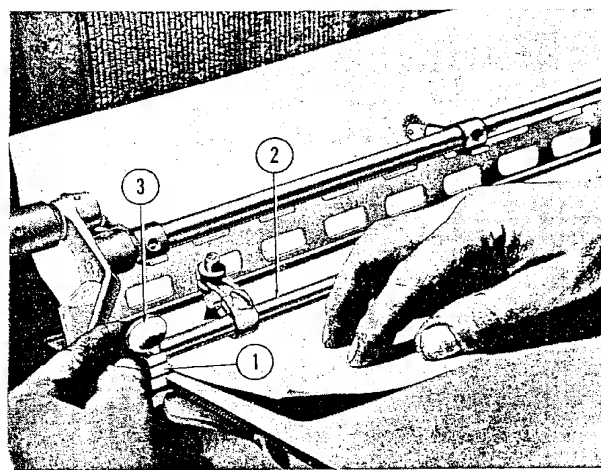
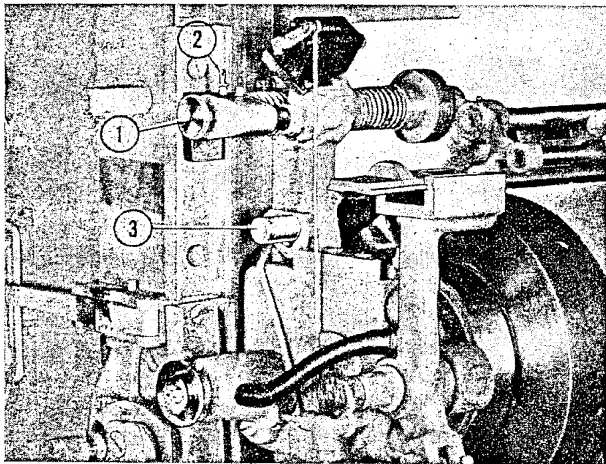
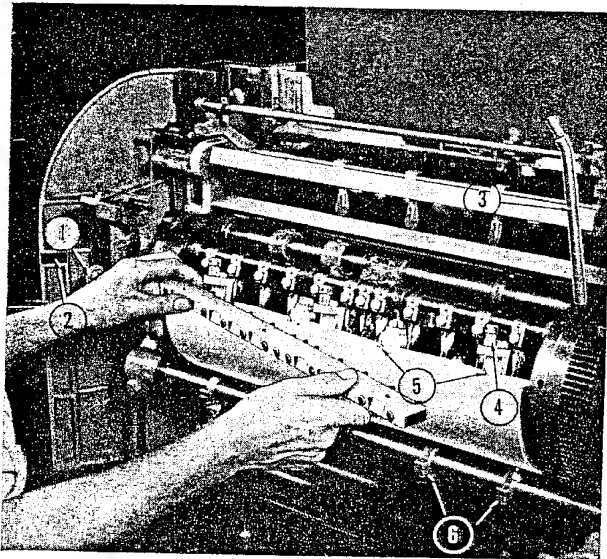
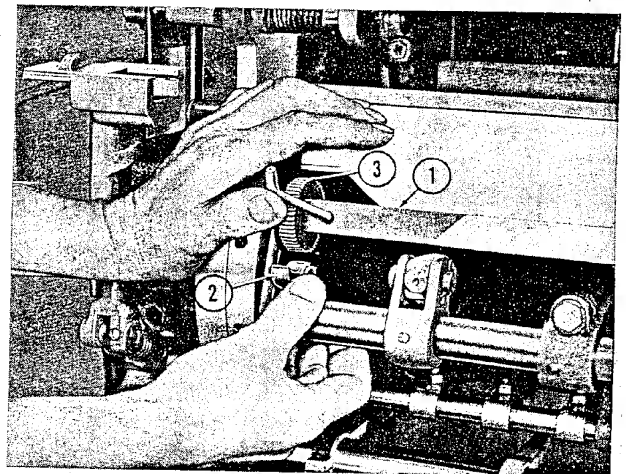

Figure 22—Setting Side Guide
Figure 23—Side Guide and Cylinder Brush Adjustment
Figure 25—Removing Cylinder Packing
Figure 26—Tightening Cylinder Packing
(2) HOW TO POSITION SIDE GUIDE SHIFTING CAM AND SET SIDE GUIDES.—The left and right side guides, (1) figure 22, which attach to the side guide tube, (2) figure 22, are adjustable along the tube. Either the left or the right side guide is used, depending upon the particular job to be run. The position of the side guide along the side guide rod is dependent upon the side register requirements as measured from the form for the particular job to be run. A scale along the front edge of the transfer
(e) With sheet in this position, set side guide, (1) figure 22, against the side of sheet and tighten side guide thumb screw (3). A side guide micrometer adjusting screw, (1) figure 23, is provided for
finer side guide register. When this adjustment is used, be sure that the setting is locked by tightening thumb screw, (2) figure 23. Slide and secure opposite side guide (not to be used) to opposite end of side guide rod.
(a) Run the press until the cylinder is approximately 1" below top center and the cylinder is on the down stroke. At this point the cylinder ratchet pawl lock collar spring pin (1) should be in line with the red alignment mark (2) on the cylinder end guard. (See figure 25).
(b) Open left cylinder end guard by lifting guard slightly and swinging it out. Pull out spring pin, (1) figure 25, thereby disengaging cylinder and permitting it to be revolved manually. *Do not turn press by hand when cylinder is disengaged.*
(c) Using large pin wrench, (3) figure 25, turn cylinder until it is in the position shown in figure 26.
(d) Using small pin wrench, turn reel rod (1) slightly until pawl (2) can be released from reel rod ratchet (3). (See figure 26.) Release draw sheet from reel rod.
(e) Turn cylinder until gripper bar is facing forward, loosen gripper bar clamp screws, (4) figure 25, using small pin wrench, permitting gripper bar to be removed from the cylinder (see figure 25.) The packing sheets can now be removed from the pins, (5) figure 25, which secure the sheets to the cylinder.
(h) Turn cylinder, at the same time smoothing out packing, until the reel rod (1) is in position shown in figure 26. Tuck top draw sheet under reel rod, fold and tighten packing by turning reel rod with small pin wrench and then engage reel rod ratchet pawl in ratchet. (See figure 26.)
To adjust the brush tension, loosen the set screws, (3) figure 23, on each side of the cylinder frame, permitting the brush rod to be turned. To check the tension, place a sheet to be run on the cylinder packing; revolve the cylinder by hand until the sheet is in contact with the brush, and then move sheet. Brush tension on the sheet should be uniform across the full width of the sheet. After brush has been adjusted, tighten set screws.
(4) HOW TO POSITION CYLINDER BANDS.
—The five cylinder bands attached to the cylinder band tube (see (6) figure 25) serve to prevent sheets from contacting rollers. The band sockets can be moved along the tube and should be spaced so that the bands are positioned in blank margins.